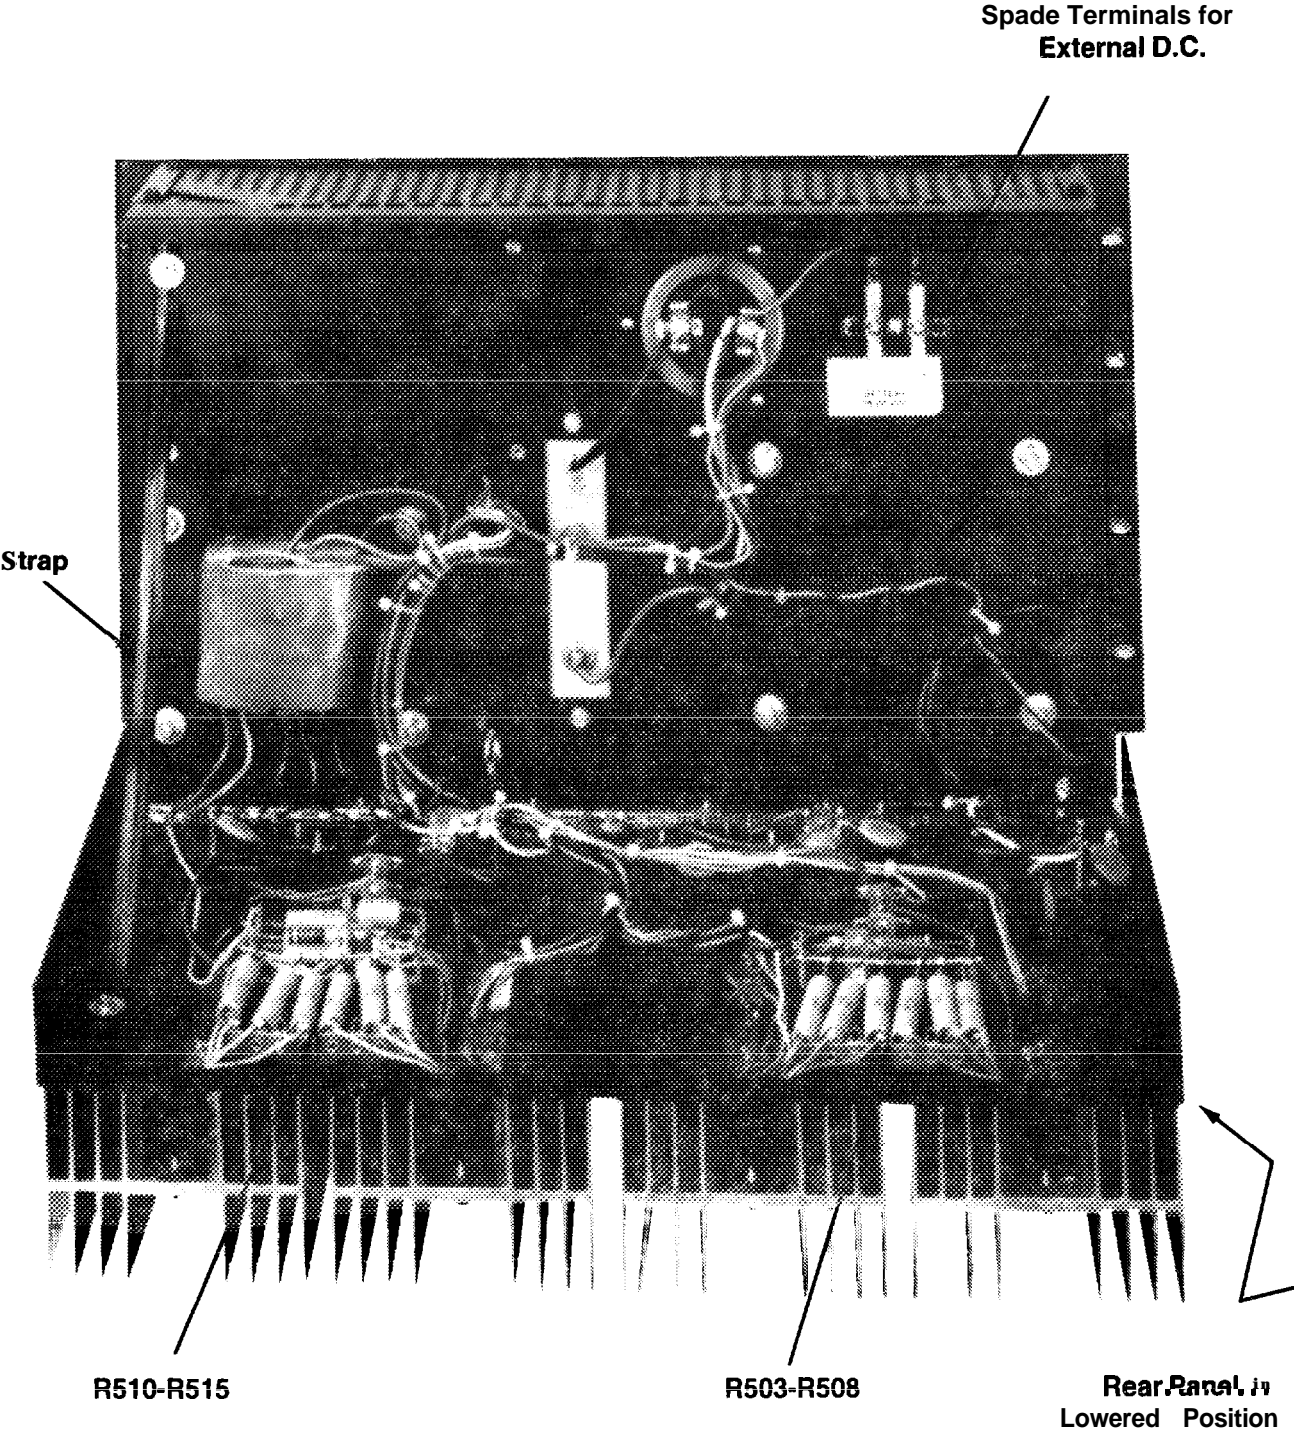

Figure 4. Rear View of FAX250 with its Rear Panel Lowered
Step 3. Attach ¼-inch push-on terminals to the cable ends and connect them to the mating ½-inch “+” and “-” spade terminals on the upper right section of the amplifier, near Capacitor C514 (see Figure 4).